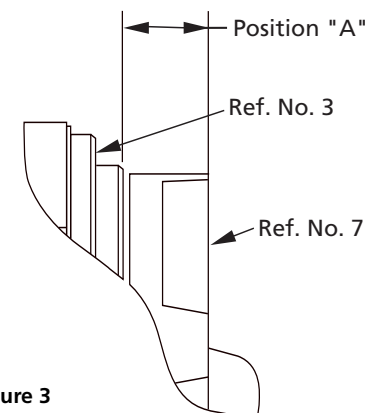

Figure 3
7. By replacing the original shims that came with the pump the impeller height should be properly set. The chart accompanying Figure3 gives the correct adapter to motor height dimension for optimum pump performance. After installing check if shaft turns freely by spinning impeller. If rubbing or binding is found, remove impeller and add a shim (Ref. No. 6) to shaft, then recheck. Repeat procedure until all rubbing is eliminated.